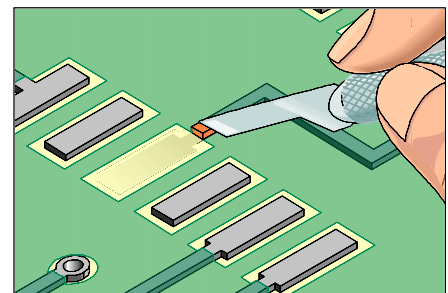

Figure 1: Remove the defective pad and remove soldermask from the connecting circuit.
2. Remove the defective pad and a short length of the connecting circuit. (See Figure 1).
4. Scrape off any solder mask or coating from the connecting circuit. (See Figure 1).